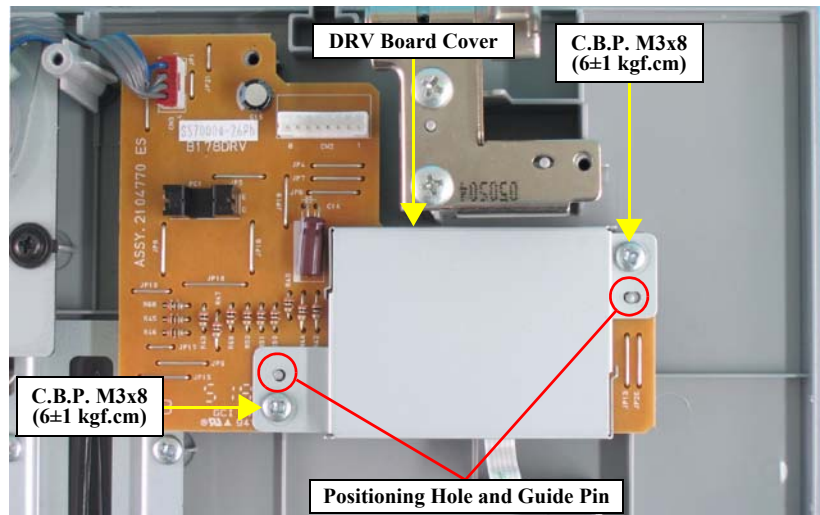

Figure 4-53. Removing the DRV Board Cover
- When installing the DRV Board Cover, match the positioning holes and the guide pins as shown in Figure 4-53.